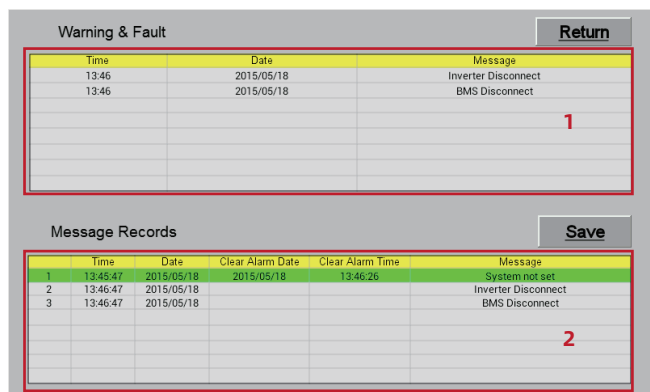

Figure 6-2 System status interface
3. Click the status can see the message as shown in Figure 6-2. The above list (1) shows current errors and warnings; the below list (2) shows errors and warnings already solved. The error information can be saved by pressing the button in the USB or SD card.